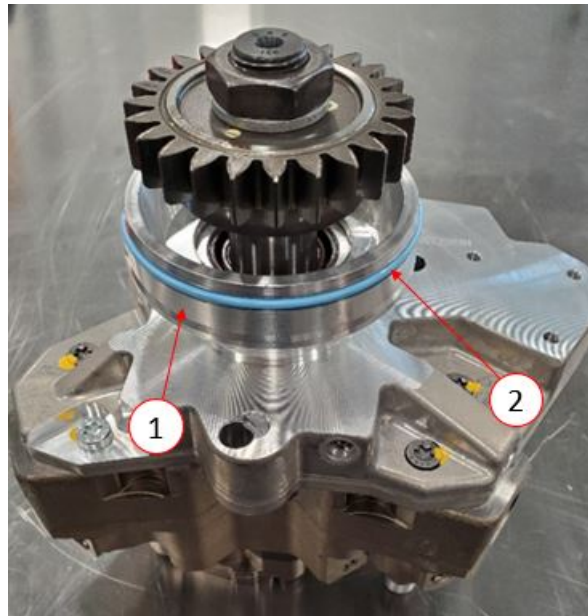

Fig. 5
10. Lubricate **new** O-ring ******(Mopar PN 68444371AA /Supplier PN 5362113)****** on the pump body with engine oil and then install the pilot adapter onto the pump body with the smaller diameter side towards the fuel pump (Fig. 5) .